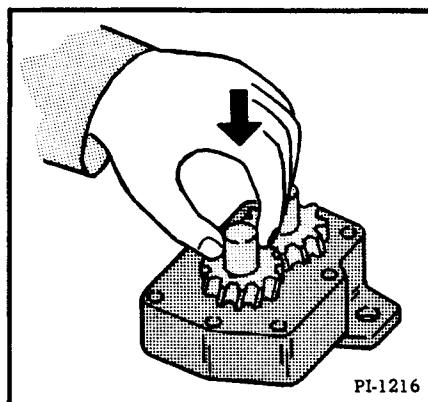
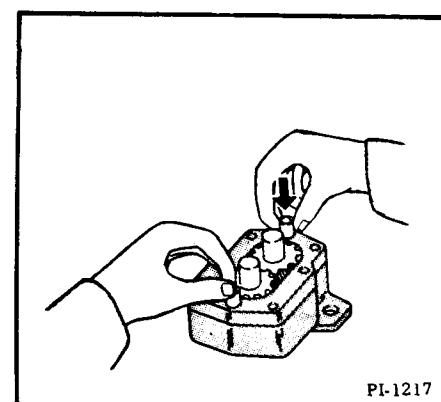

Fig. 33 Installing Idler Gear Assembly
Fig. 34 Inserting the Dowel Pins
- (6) Insert the idler gear and shaft assembly (Fig. 33).
- (7) Place the gear plate over the gears, observing the scratch marks on the sides of the plate and body to be sure the pump is being reassembled properly.
- (8) Insert the dowel pins through the large holes in the gear plate (Fig. 34).
(9) Insert the cover plate over the shafts. Check the scratch marks on the sides of the plates to be sure the pump is being reassembled properly.
(10) Insert and tighten the cover screws, then turn the pump over and insert and tighten the body screws.